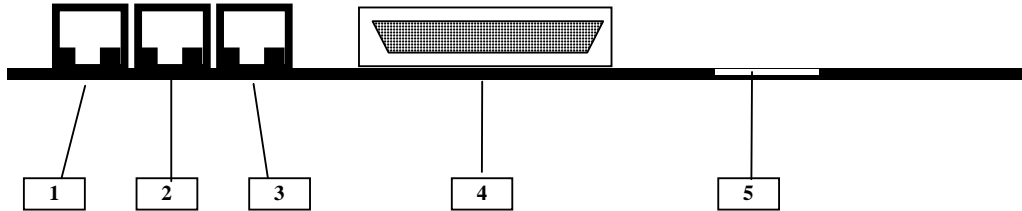

Figure 69: CXR 2885P, rackmount version – rear view
- Check that all cables are well plugged on the Modem side, as well as on the others LRU side (Refer to § Figure 69).